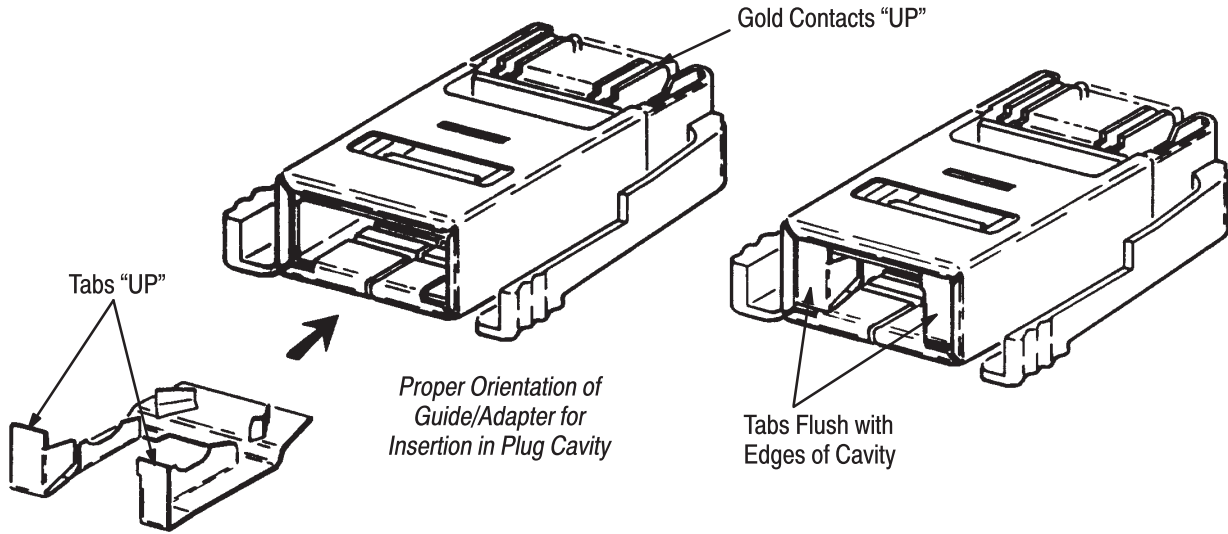

Figure 2
When using an 8- or 16-position SDL Flat-Cable Plug Assembly with a keying configuration compatible with your receptacle application, and a four-position flat cable, see Figure 2. Installation is as follows:
3. Grasp the cable guide/adapter with the tabs UP and insert it into the plug cavity as shown in Figure 2. Push the adapter into the cavity until it latches on the cantilevered metal flaps in the cavity and the adapter tabs are flush with the cavity opening.
*It is important to have the adapter properly orientated as shown in Figure 2. Once the adapter has been inserted, it may not be removed.*